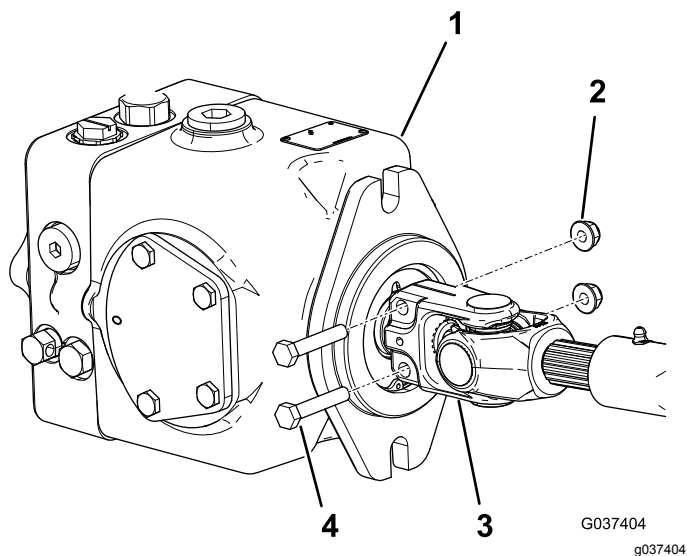

Figure 2
4. Remove the 2 flange nuts and 2 bolts securing the small end of the existing driveshaft to the hydraulic pump (Figure 2).
- Loosely install the existing bolts and flange nuts into the holes in the small end of the driveshaft (Figure 2).
- Install the small end of the driveshaft onto the shaft of the hydraulic pump and tighten the flange nuts to secure the installation (Figure 2).